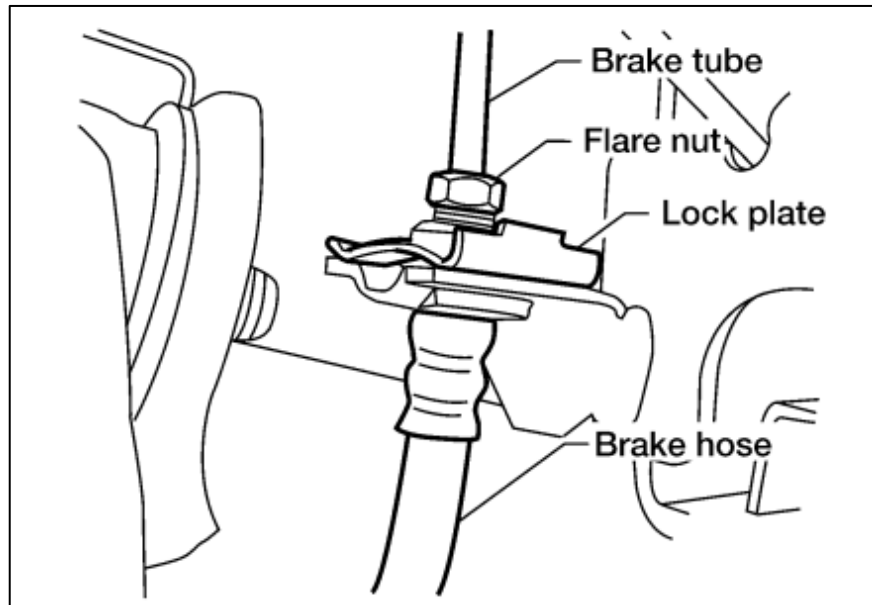

Figure 3
10. Locate (1) one Z1 Brake Rotor, and install it onto the Wheel Hub. Secure it with a lug nut to make sure it doesn't fall off while installing the rest of the braking system.
12. Locate (1) one Z1 Stainless Steel Brake Line. Install the threaded end into the OE Brake Hard Line of the vehicle, and position the mount for the Brake Line Bracket as necessary. Secure the Line with the Lock Plate removed in *Step 4. Figure 3.*